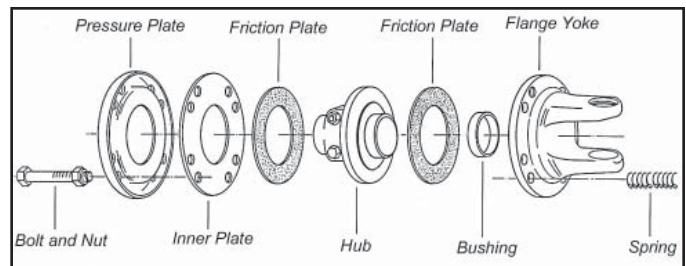

Figure 59, Exploded view of torque limiter
5. Check the condition of all parts, especially the friction discs (Figure 59).